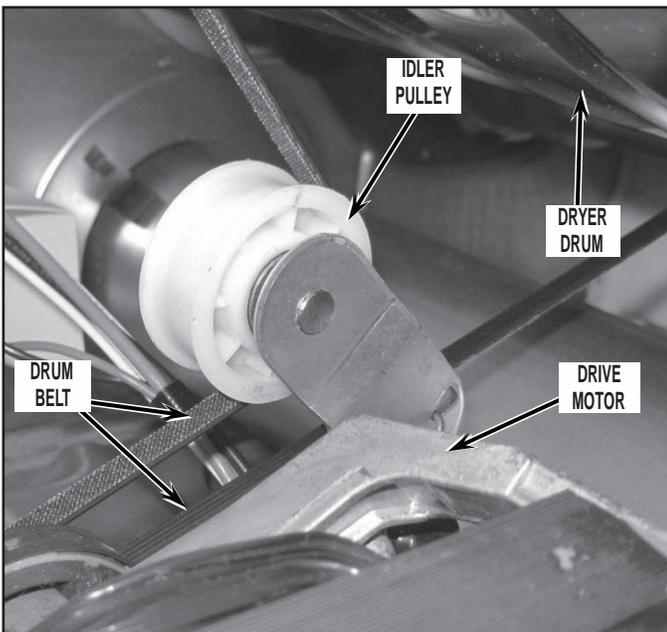

FIGURE 17
20. Remove drum from dryer by first reaching into dryer just under the drum, to back side of drive motor. Grasp idler pulley and lift up to relieve tension from belt and remove belt from motor pulley and idler pulley. Refer to *Figure 17* for belt removal and reassembly.